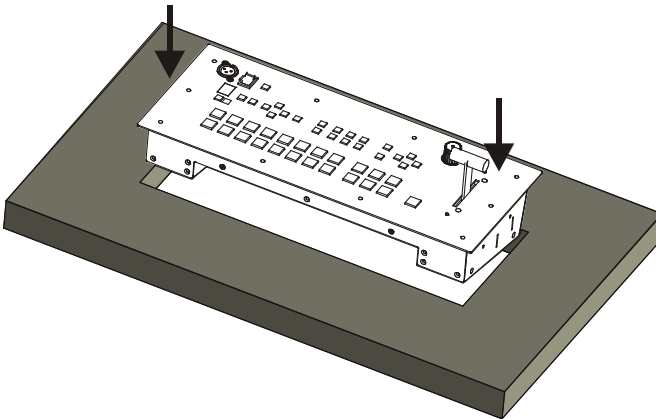

Figure 4: Inserting the VP-747T into the Prepared Cut Out Opening
2. Carefully insert the **VP-747T** unit into the prepared cut out opening, as illustrated in Figure 4.